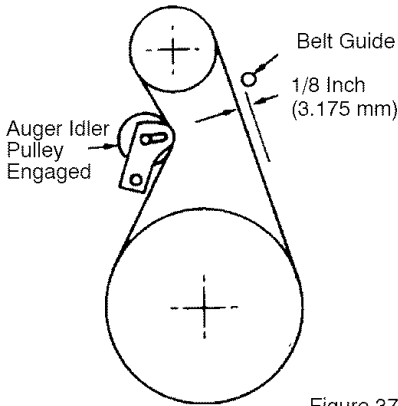

Figure 37
3. Measure the distance between the belt guide and belt. The distance should be $\frac{1}{8}$ inch (3.175 mm) for guide. See Figure 37.